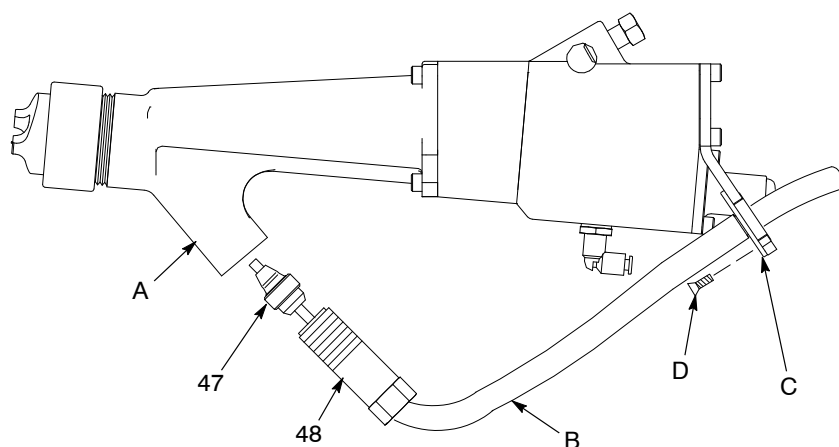

Figure 7-8 Fluid Supply Hose/Tubing Replacement
3. See Figure 7-8. Remove the screws (52) and optional fluid hose collar (C) from the bracket (51). Remove the collar from the tubing and save for the new tubing installation.
4. Loosen the retaining nut (48), which is located at the extension fluid inlet boss (A), and unscrew completely.
5. Pull the ferrule (47) and retaining nut assembly out of the spray gun extension inlet.